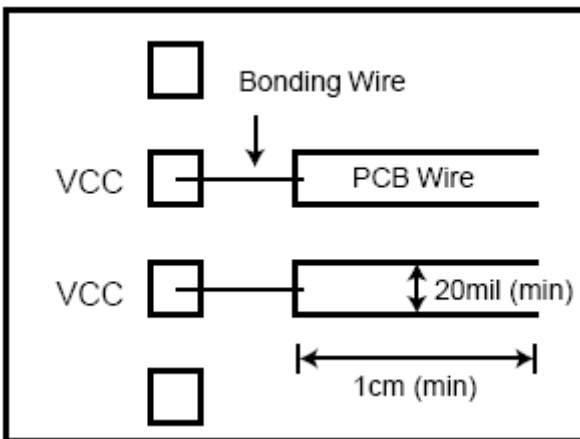

Figure 1 Power Pin Pitch
2. Please keep the PCB layout width  $\geq$  20 mil for the VCC/VCCQ and VSS/VSSQ.(Figure 1)